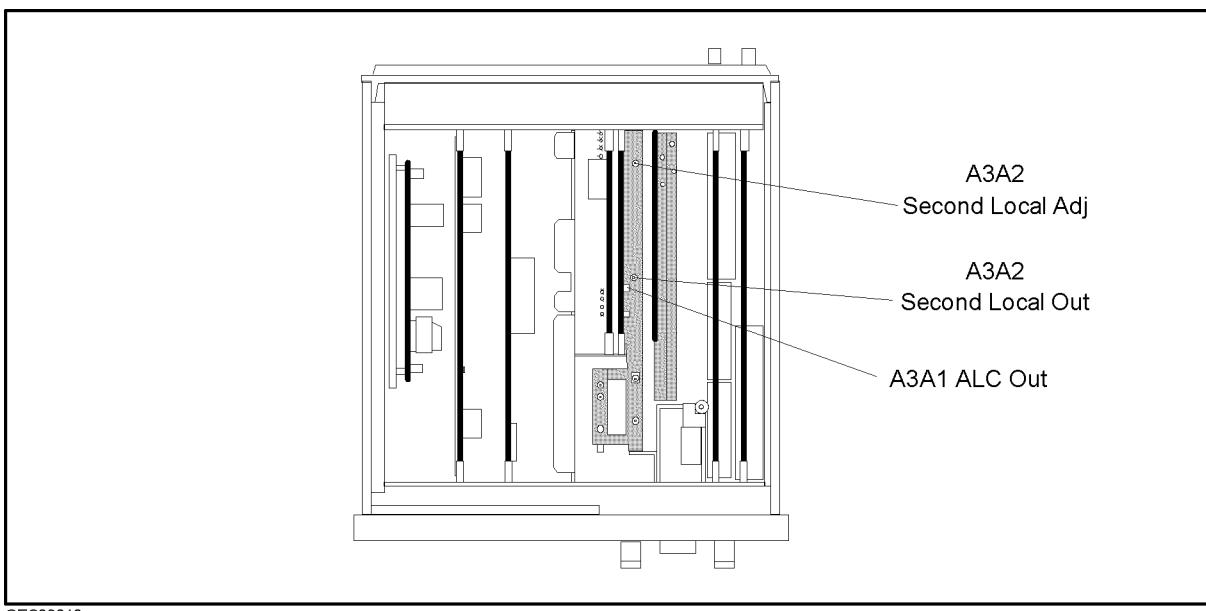

Figure 3-9. Second Local PLL Adjustment Location
2. Remove the "D" cable from the A3A1 "ALC Out" connector. Remove the "I" cable from the A3A2 "Second Local Out" connector. The connector locations are shown in Figure 3-9.
7. Adjust A3A2 "Second Local Adj" until 2.08 GHz appears constantly on the spectrum analyzer display and the 4291B analyzer reading is between the limit lines. Then press `CONT` to complete the adjustment. If 2.24 GHz appears, rotate "Second Local Adj" clockwise. If 1.92 GHz appears, rotate "Second Local Adj" counterclockwise. The adjustment location is shown in Figure 3-9.